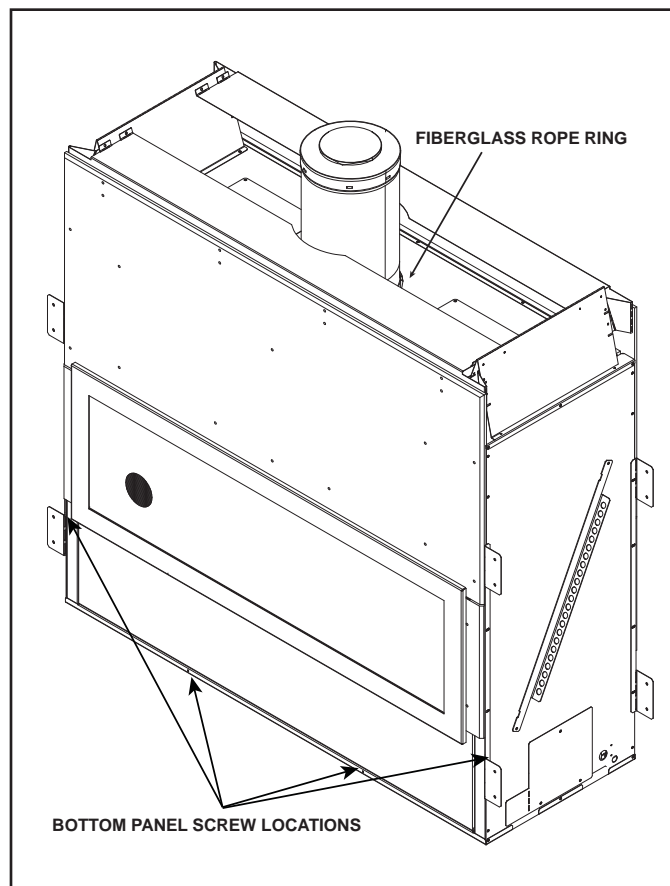

Figure 9.1 Location of Fiberglass Rope Ring
4. Remove bottom metal panel by removing four screws. Screw locations are shown in Figure 9.1. The two screws on the bottom side are located behind the panel. Remove all four screws and gently lift the panel off the appliance avoiding contact with the non-combustible board if possible.
For details on setting the appliance in the framing, refer to section 13.B. The diagram shows how to properly position, level, and secure the appliance (see Figure 9.1). Nailing tabs are provided to secure the appliance to the framing members.